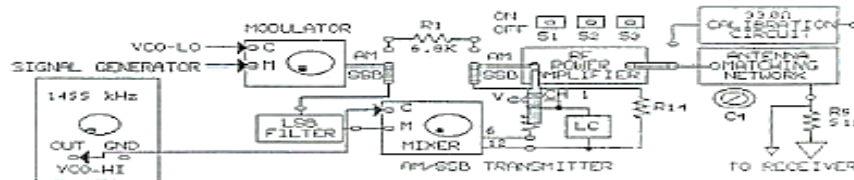

Figure 4-27.
20. With two-post connectors, connect the RF POWER AMPLIFIER to the MIXER and the ANTENNA MATCHING NETWORK (Figure 4-27).